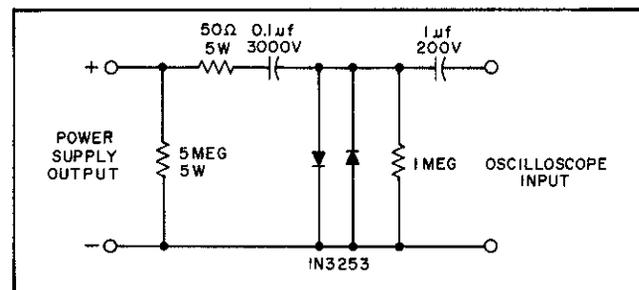
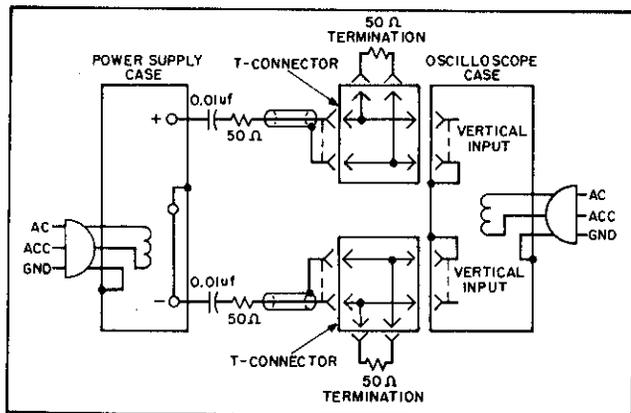

Figure 5-5. High Voltage Protection Network
Figure 5-6. Noise Spikes Test Setup
a. Connect the oscilloscope or RMS voltmeter as shown in Figures 5-4B or 5-4C. In addition, connect the high voltage protection network, illustrated in Figure 5-5, in series with the power supply output. In this network, the diodes clamp the input to the oscilloscope in the event that the power supply is rapidly turned up or down. The 50 ohm resistor limits the current through the diodes. The 5Meg resistor is a bleeder to discharge the 0.1 μ f capacitor which is a 3000Vdc blocking capacitor. A good quality 3000Vdc blocking capacitor can be used in place of the protection network; however, if the capacitor becomes leaky or in cases where the power supply output voltage is rapidly increased or decreased, the oscilloscope input could be damaged.
1. As shown in Figure 5-6, two coax cables, must be substituted for the shielded two-wire cable. In addition a high voltage protection network (Figure 5-5) as described in paragraph 5-31 should be connected in series with the power supply output.
5-34 The circuit of Figure 5-6 can also be used for the normal measurement of low frequency ripple and noise; simply remove the four terminating resistors and the blocking capacitors and substitute a higher gain vertical plug-in in place of the wide-band plug-in required for spike measurements. Notice that with these changes, Figure 5-6 becomes a two-cable version of Figure 5-4C.